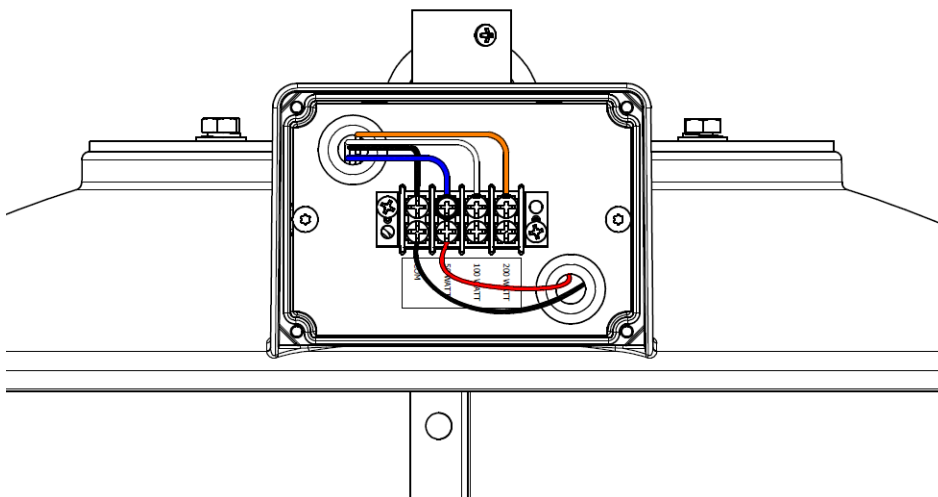

Figure 4: Wiring for 50W system
- 2) The unit comes preset at 50W as shown in Figure 4. Unscrew the terminal with the red wire. It is marked 50W. Remove the wire from the 50W terminal and insert it into the desired terminal, 100W or 200W. Tighten the terminal. Note: Confirm that all of the non-used screws in the terminal block are tight. Refer to section 4.0 (Wiring) for more detailed wiring diagrams.